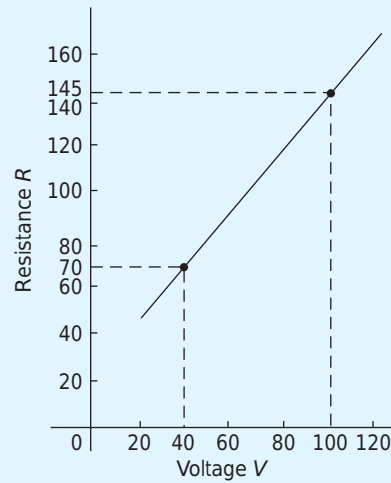

Figure 2.10
- A graph of resistance against voltage for an electrical circuit is shown in Figure 2.10. The equation relating resistance R and voltage V is: